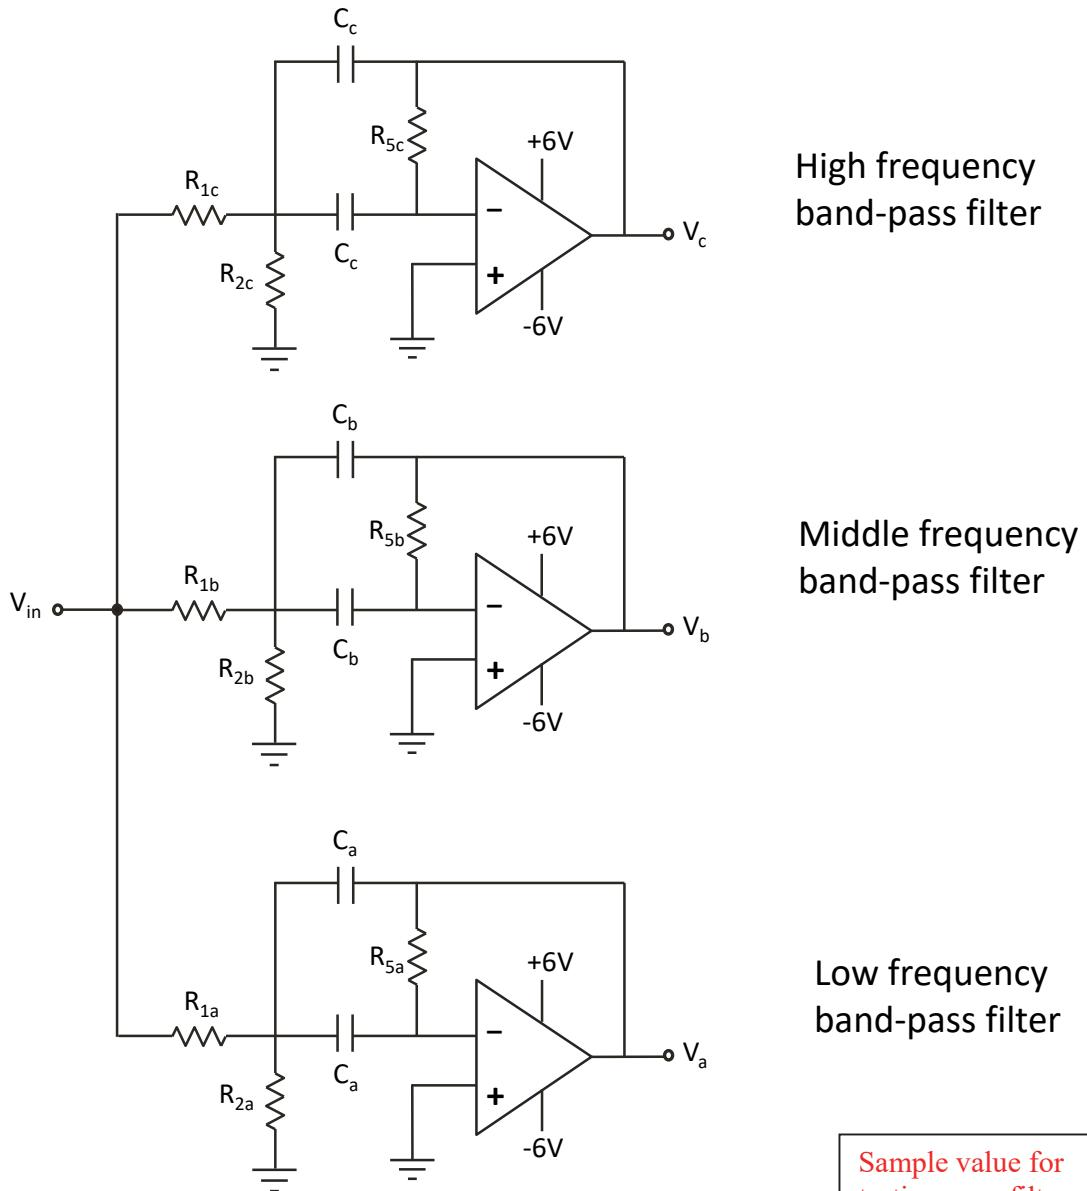
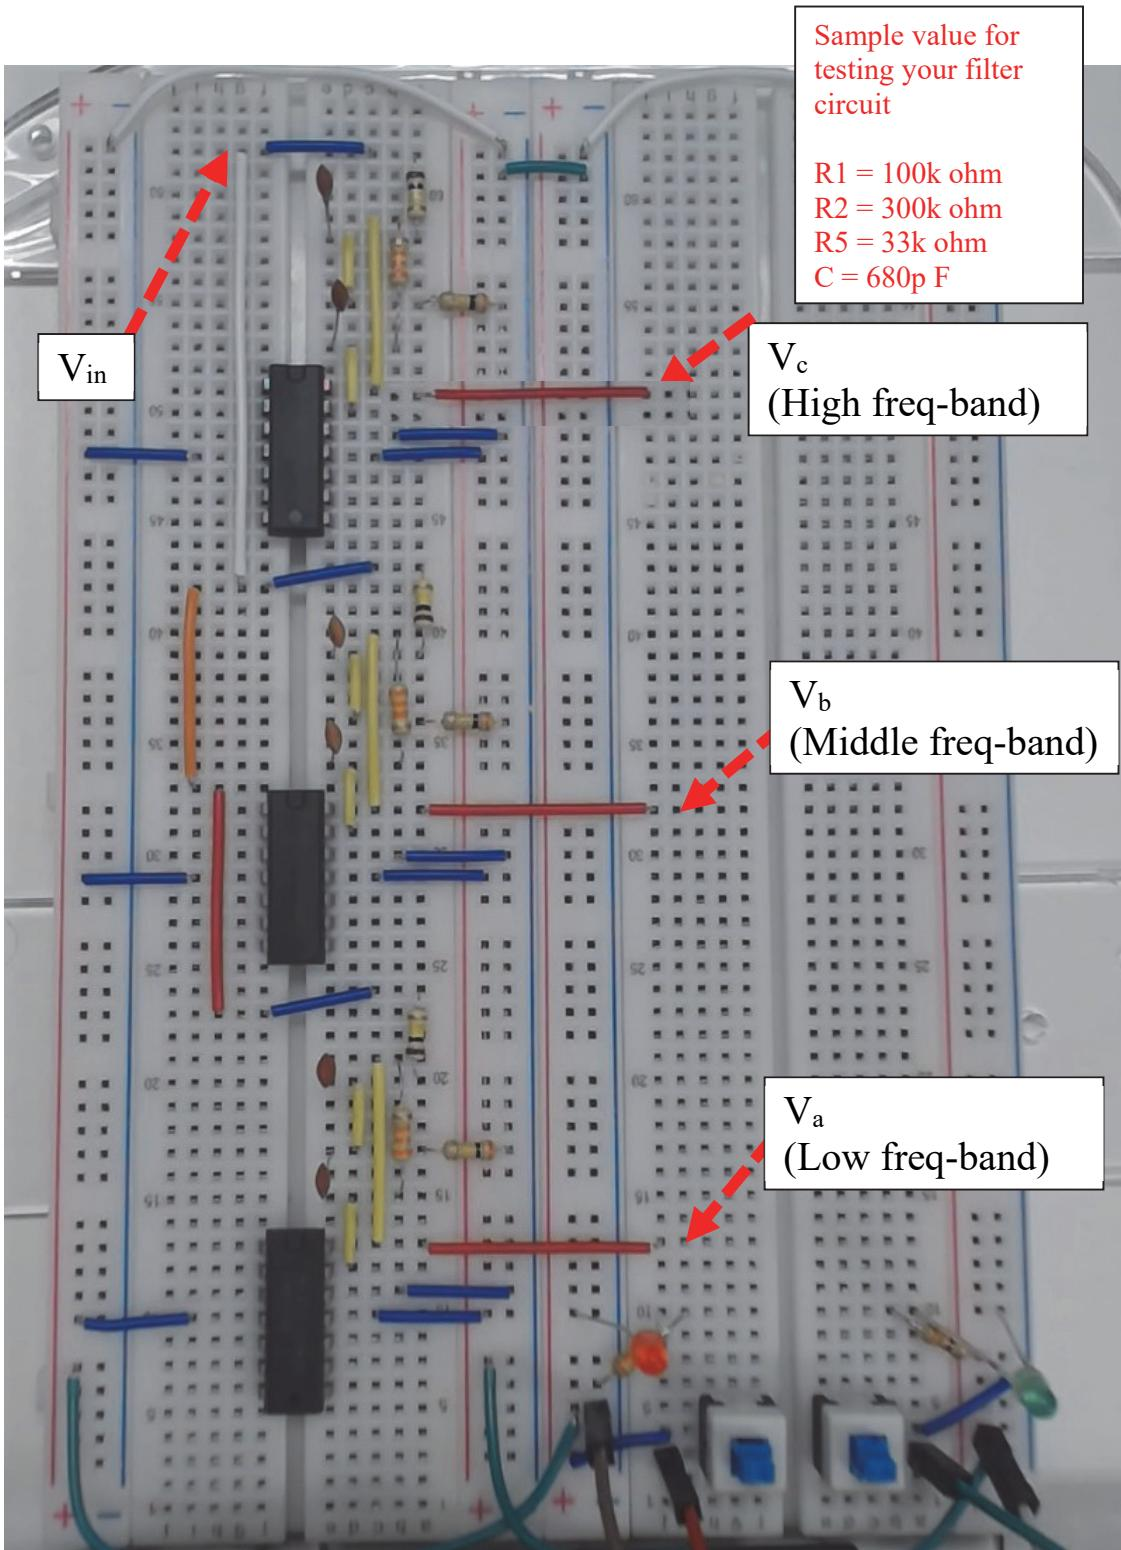

Fig. 19
Fig. 20
- 5.3.20 Use the value of the  $R_{1b}$ ,  $R_{2b}$ ,  $R_{5b}$ ,  $C_b$  for middle frequency band-pass filter and use the value of  $R_{1c}$ ,  $R_{2c}$ ,  $R_{5c}$ ,  $C_c$  for low frequency band-pass filter obtained in Lab 5a simulation. Connect the middle and low frequency band-pass filter circuit as shown in Fig. 19, and put all the components on the breadboard as shown in Fig. 20. For simplicity, only one opamp is used in each LM324 for each band-pass filer.